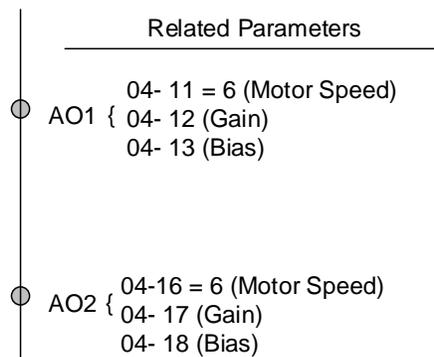

Figure 4.4.112 Analog output setting
4. See figure 4.4.112, observe the motor speed waveform and tune the gain at the same time.